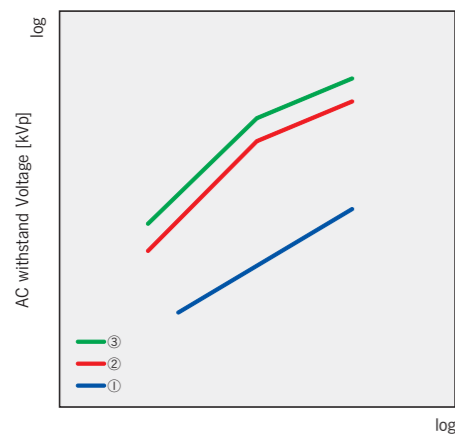

Figure 2.
(3) Electrode conditioning
Figure 2 shows "distance between electrodes-withstand voltage" characteristics. It is not possible to obtain high withstand voltage like behavior. ① (before conditioning) by simply placing electrodes in vacuum. High withstand voltage requires conditioning, which is to apply high working voltage and repeat low current flashover multiple times performed in our HASS testing. ② Exhibited withstand voltage characteristics after conditioning during production HASS/conditioning. ③ display post conditioning withstand voltage. Please note that instant discharge may occur after reaching ② and ③ by conditioning.